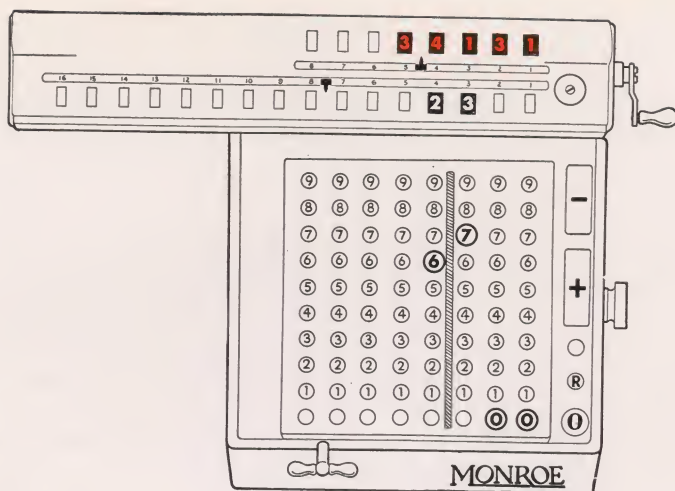

Figure 10
Step 8—The result will register automatically in red in the upper dials in correct position with relation to the decimal point which was previously set, and the final result will appear as in Figure 10. The .0002300 shown in the lower dials is the remainder.